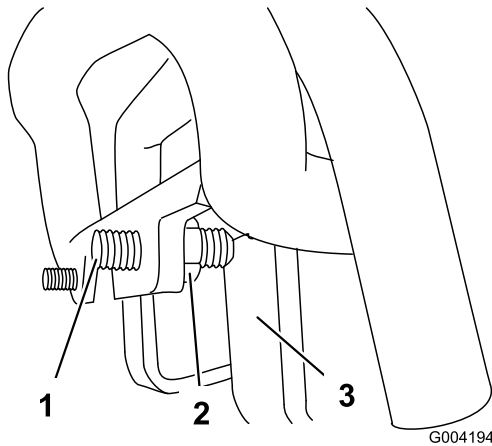

Figure 70
3. If the traction unit veers to the **left**, loosen the **right** jam nut and adjust the tracking set screw on the front of the traction control (Figure 70).
4. If the traction unit veers to the **right**, loosen the **left** jam nut and adjust the tracking set screw on the front of the traction control (Figure 70).